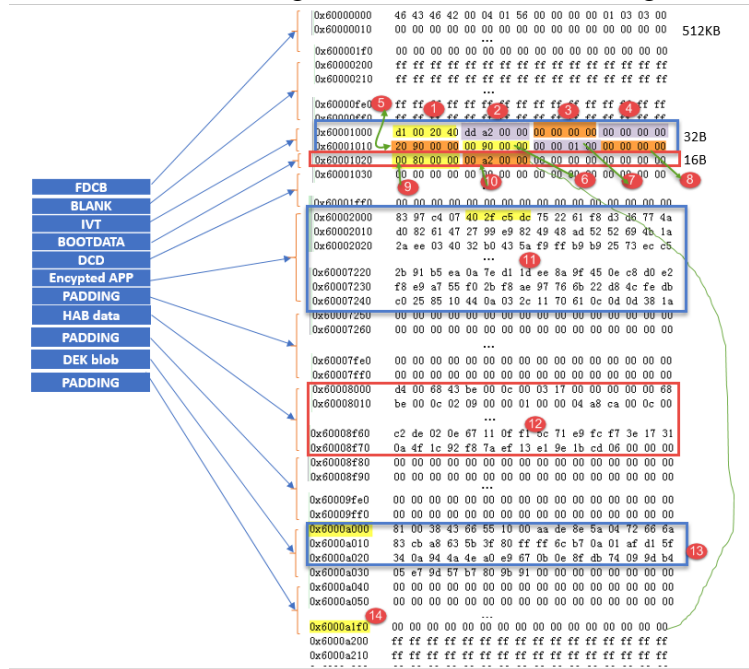

Fig 16. HAB Encrypted image example structure
- 10): BOOT_DATA: size, APP while size, it is 0X0000A200, after checking the while generated HAB encrypted app image size, you can find the image end size is really 0XA200, just like the fig 16.